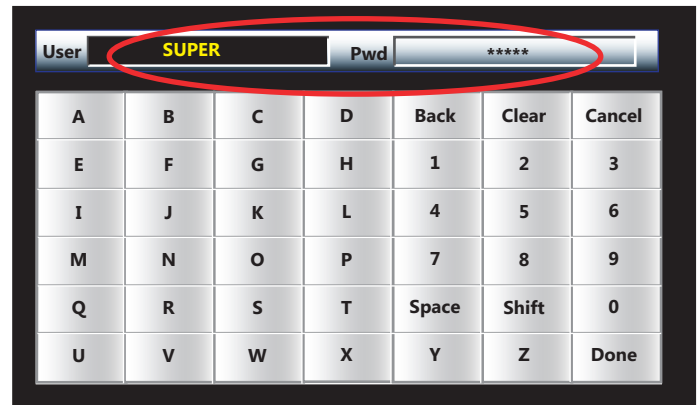

Fig. 17: Enter Default Supervisor in Keyboard
4. A keyboard screen appears next. Touch USER box and enter default supervisor name "Super" (Fig. 17).
5. Touch the PWD box and enter default password "1-2-3-4-5" (Fig. 17). Password displays as *****. Press DONE.